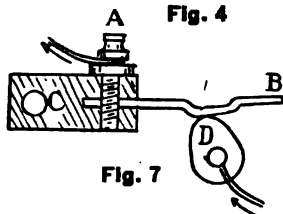

Fig. 7
spring B. This spring and screw are insulated from the engine by means of a fiber block (C), so that the electrical current cannot pass from A to F. The cam D is connected with the valve-gear shaft, or to a special shaft so arranged that it will assume the position shown in Fig. 7 just at the instant when the charge should be ignited. As soon as it reaches this position it presses against the spring B, a connection is made through the wires, a spark occurs in the cylinder, and the gas is exploded. During the rest of the revolutions of the motor the cam does *not* touch the spring, and therefore no spark is formed in the cylinder. In a way the timer is a sort of revolving switch which is placed in such a position in relation to the motor that it connects the wires when the charge is to be ignited, but keeps them separated at all other times.